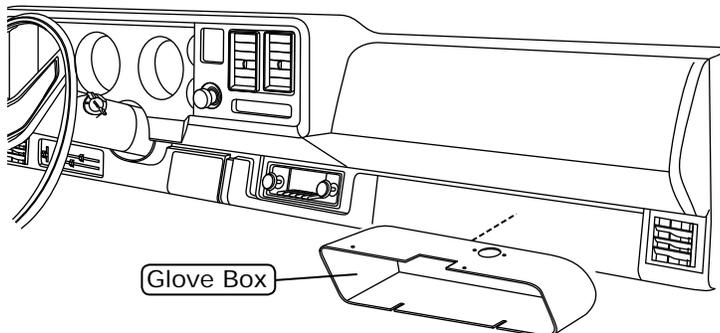
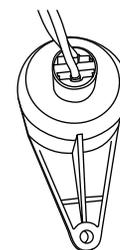

Figure 20
Figure 20a
1. Install the supplied glove box, and secure it using OEM screws through the OEM holes (See Figure 20, below). **NOTE: If equipped with the glove box light as shown in Figure 20a, below, modify the plastic glove box using the template provided on Page 28.**